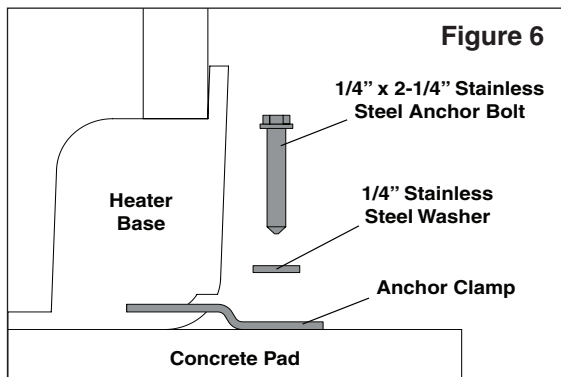

Figure 6
7. Insert an anchor bolt through each clamp into the anchor and tighten to secure the clamp and heater to the equipment pad. See **Figure 6**.